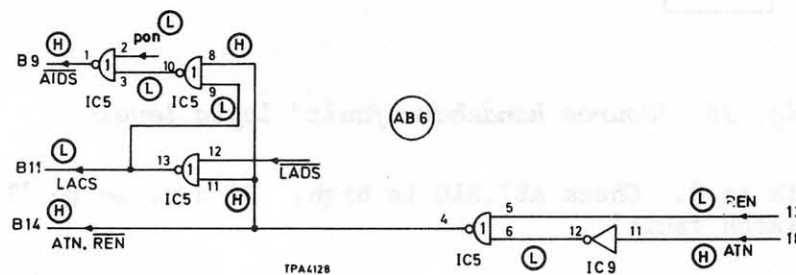

Fig. 15 'REN and ATN gating logic fault' logic levels
- (1) Place AB6 on extender board. Switch instrument back on (instrument goes to local). Set ATN to 1.
- (2) Check AB6,13 is low. If not, go to 'REN output fault'.
- (3) Check AB6,18 is high. If not, there is a fault with AB7 IC3 or interconnections.
- (4) Check AB6,5 is low. If not, go to 'Power-on reset fault'.
- (5) Localize fault by comparing logic levels with those shown in Fig. 15.